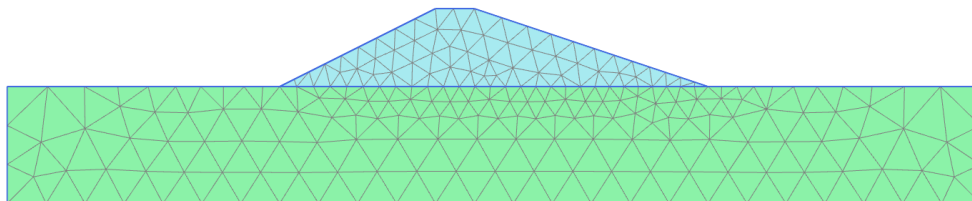

Figure 30: The generated mesh
4. Click the **View mesh** button  to view the mesh and the generated mesh is shown in Figure 30 (on page 42).